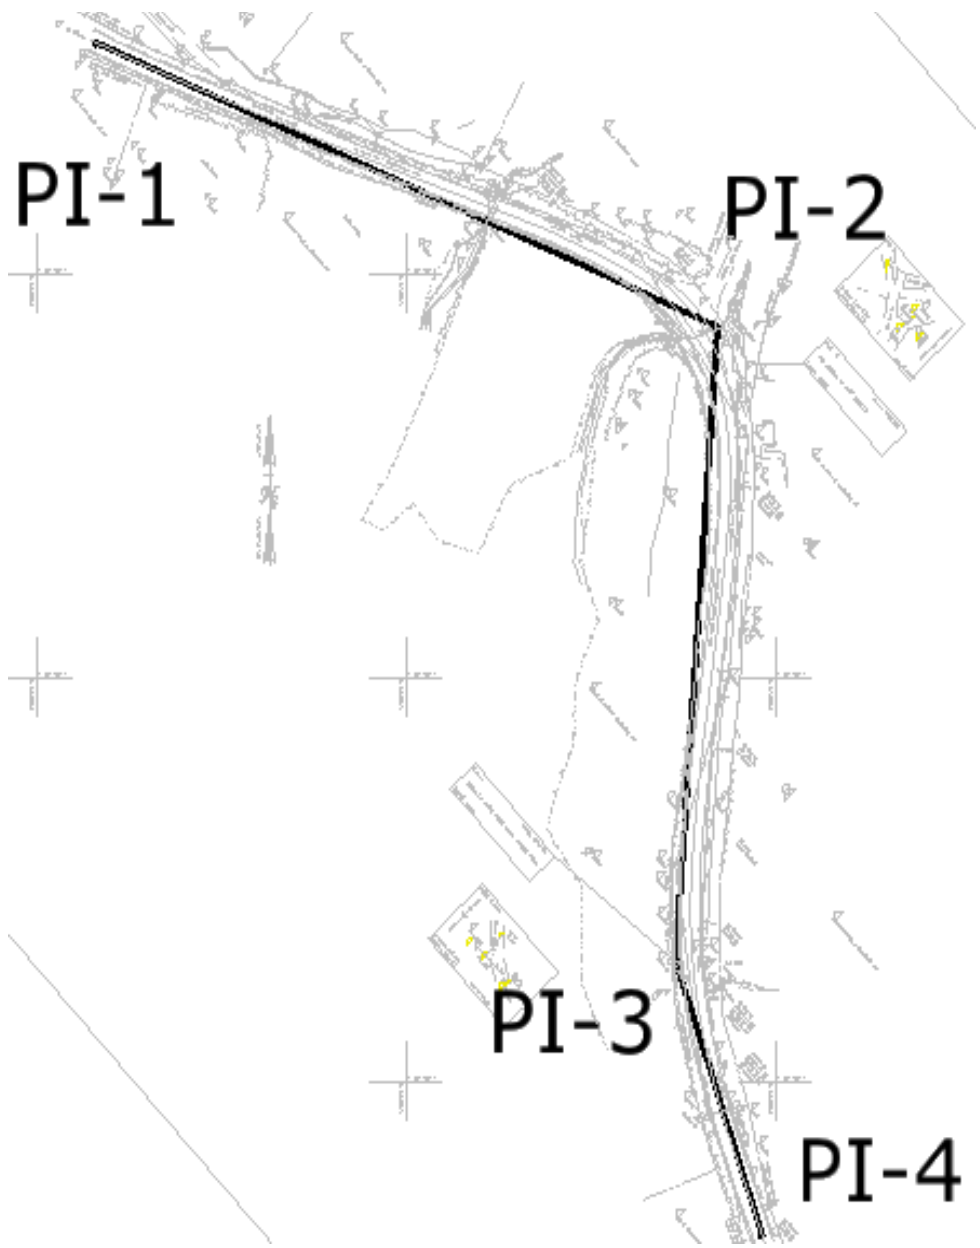

Figure 4-3 Mainline Horizontal PI Point Locations
- E. Placing the PI-1, within the MicroStation window key-point snap to the center of the existing roadway at the beginning (left hand corner) of the project. Then left-click (data point = placing and accepting) to accept the point. (Right-click = rejects the point). (See Figure 4-3 for location of all PIs.). Note: Always read the MicroStation command prompts at the bottom left corner of the application.
- G. Continue to work along the project by data pointing and accepting PI locations similar to what is shown in Figure 4-3.
- J. When done trying out the commands in Step I, revise the alignment back to what is shown in Figure 4-3. Again delete the horizontal alignment graphics in MicroStation and redisplay the geometry, select **Geometry > View Geometry > Active Horizontal**.